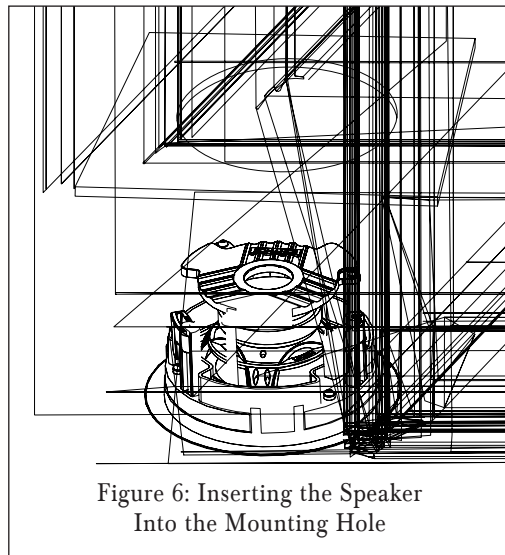

Figure 6: Inserting the Speaker Into the Mounting Hole
5. Make sure all the RotoLock clamps are in the full clockwise position so that they are tucked within the mounting hole's border. Insert the speaker into the hole in the wall (*Figure 6*). The RotoLock system can accommodate a maximum wall material thickness of 1¼".